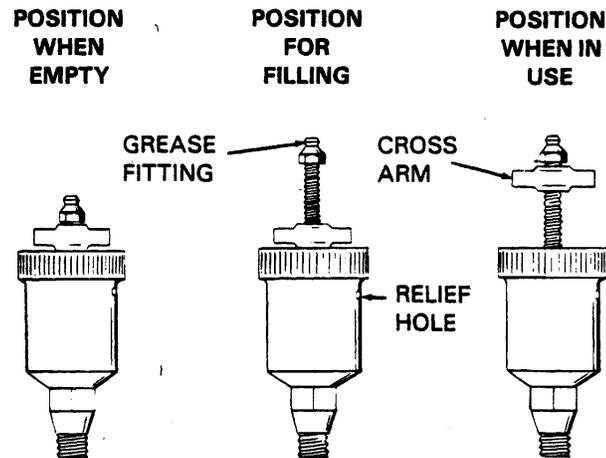

Figure 3. Automatic Lubricating Grease Cup
Before starting the pump, fill the grease cup (24) through the grease fitting with a good grade of No.2 pressure gun grease until grease escapes from the relief hole. Turn the grease cup arm counterclockwise until it is at the top of the stem; this will release the spring to apply grease to the seal (see Figure 3).